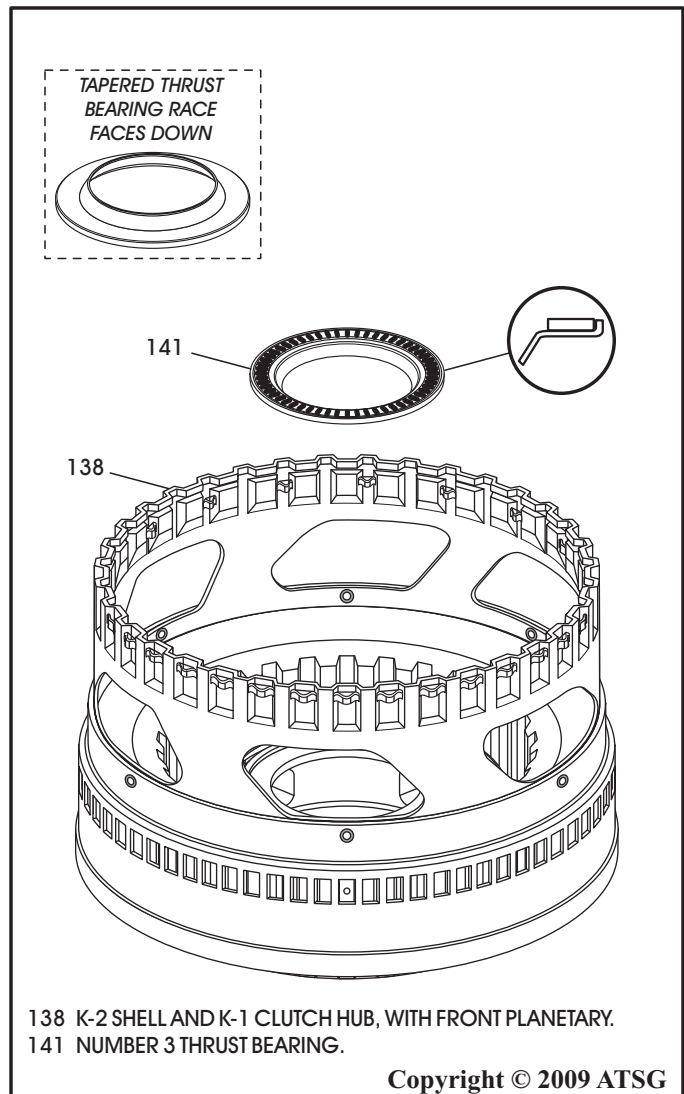

Figure 116
33. Turn the K-2 shell over and install the number 3 thrust bearing, as shown in Figure 116.
*Note: The tapered thrust bearing race faces down, as shown in Figure 116.*